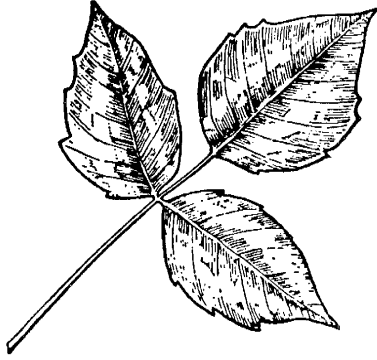

Fig. 21—Poison Ivy
- (a) **Types**—Ivy, oak, and sumac. (See Figs. 21, 22, and 23.)